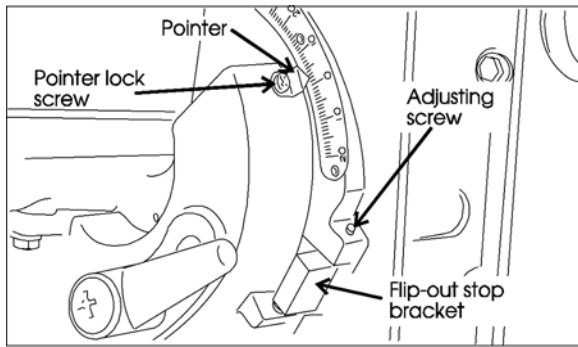

Figure 20: Location of adjustment (socket head) screws and pointer attachment screw for table angle adjustment.
5. If adjustment is required, turn the adjusting screw (Figure 20) until the table is exactly square to the platen.